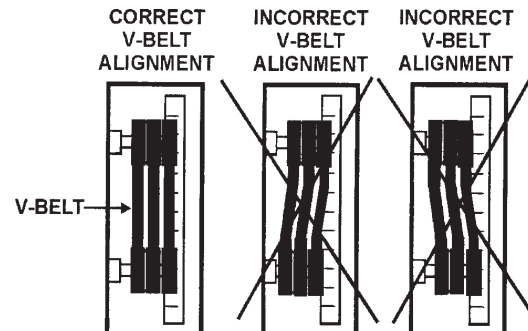

Figure 10. Pulley Alignment
2. Check uniform parallelism (Figure 10) of V-belt and pulley (sheaves). Use a straight-edge or machinist's square against both pulleys and adjust both pulleys until equally aligned.